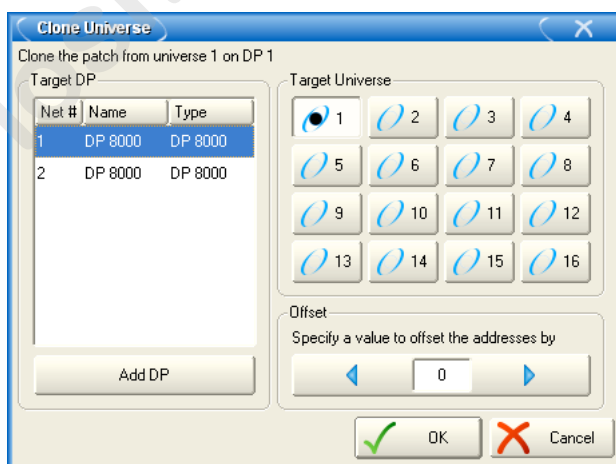

Figure 14.11. The Clone Universe window
3. Press Clone Universe. The Clone Universe window will open; see *Figure 14.11*, “The Clone Universe window”.